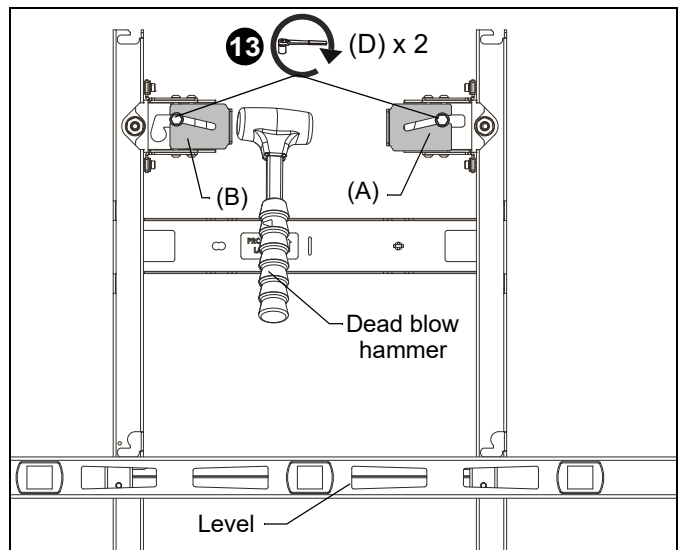

Figure 9
11. Check the level of the mount at the bottom of the teardrop slots. (See Figure 9)
12. If the mount is not level, slide or use a dead blow hammer to lightly tap the spacer into place. This will lift the mount up as the lag screw rides in the washer's angled slot. (See Figure 9)
13. When the mount is leveled, tighten the lag screws (D). (See Figure 9)